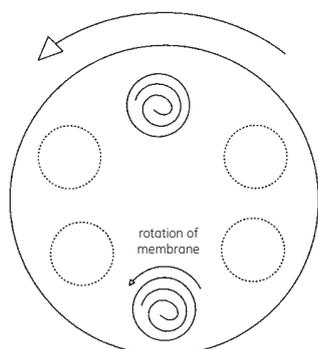

Fig 3. Rotation of rotisserie
3. Place the hybridization bottle(s) into the rotisserie (as detailed in section 5.2.) add counterbalance bottles if necessary. Place the rotisserie into the oven so that the bottles are rotating in the same direction as the membrane is rolled, see Figure 3.